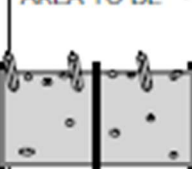

FIG: 2
c). Where several mats are required to cover the channel width, lap the sides (Fig: 2)	The full width of the channel should be protected unless there is a specific reason.